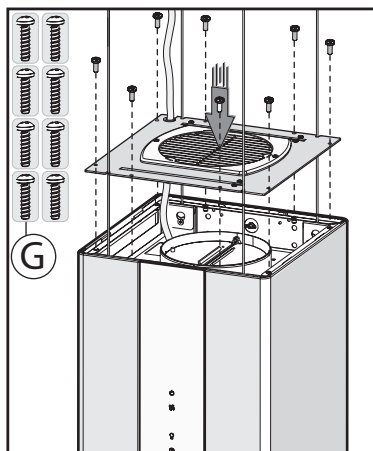

Fig.9
- Pass the power supply cable through the slots of the small cupola as shown in figure 9.
- Take the small cupola and fasten it to the hood using the 8 screws **G** as shown in figure 9.